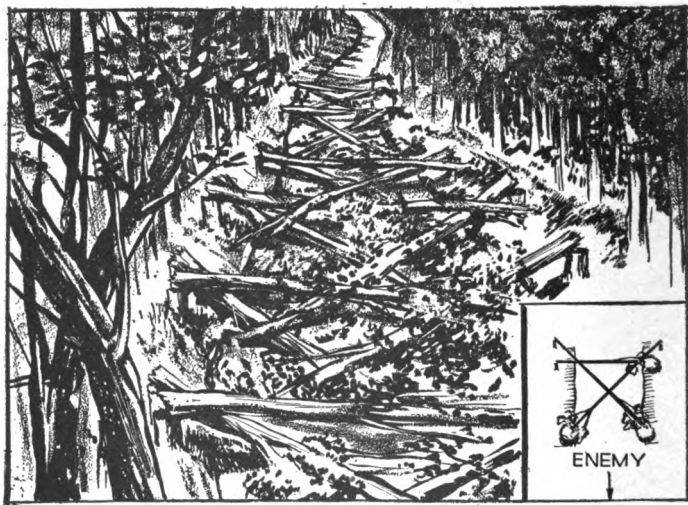

FIGURE 111.—Abatis constructed of interlaced trees in defile.
d. Abatis.—A road block made with fallen trees can stop a tank for a time, if the trees are big enough. (See fig. 111.)